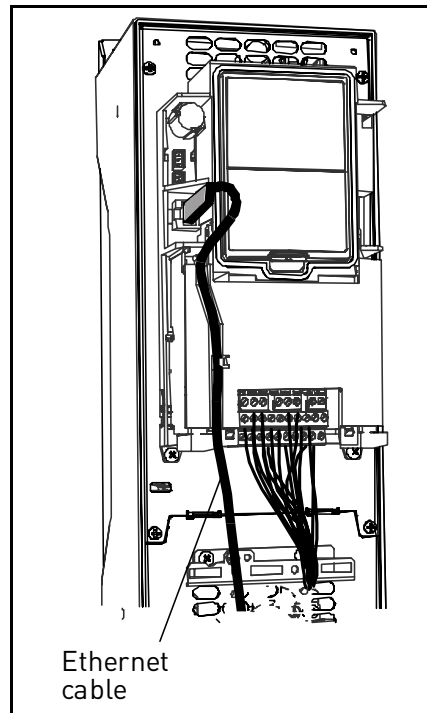

Figure 5.
- 3** Connect the Ethernet cable (see specification on page 8) to its terminal and run the cable through the conduit as shown in Figure 5.